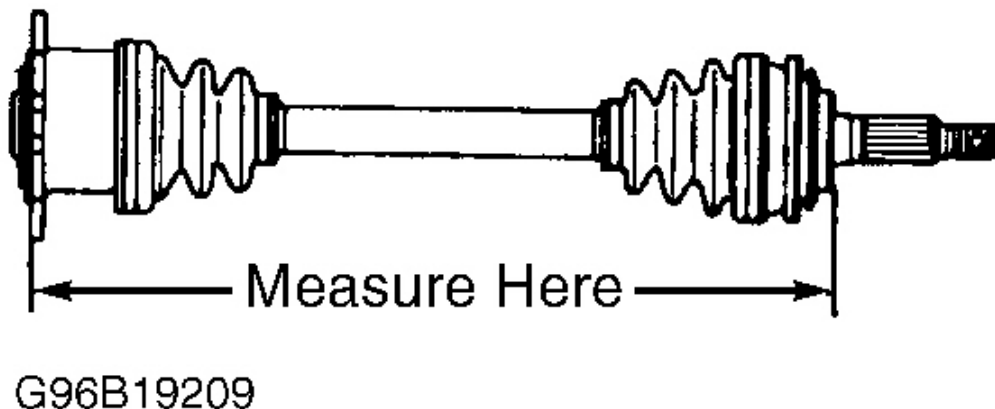

Fig. 11: Measuring Axle Shaft Length (Rear)
4. Apply grease supplied with overhaul kit into outer joint and boot. Install boot on inner housing and outer joint. Ensure boots are seated in grooves on axle shaft. Adjust axle shaft to standard axle shaft length. See **AXLE SHAFT LENGTH SPECIFICATIONS** . See **Fig. 11** . Install and tighten boot clamps.
(2) Measure axle shaft length between inner joint flange and outer joint flange. See Fig. 11 .